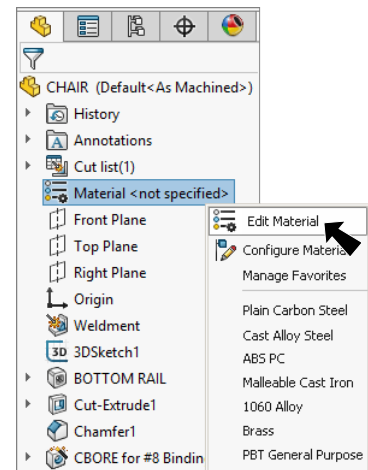

Fig. 34
Step 2. **Right click Material**  in the Feature Manager and click **Edit Material**, Fig. 34.